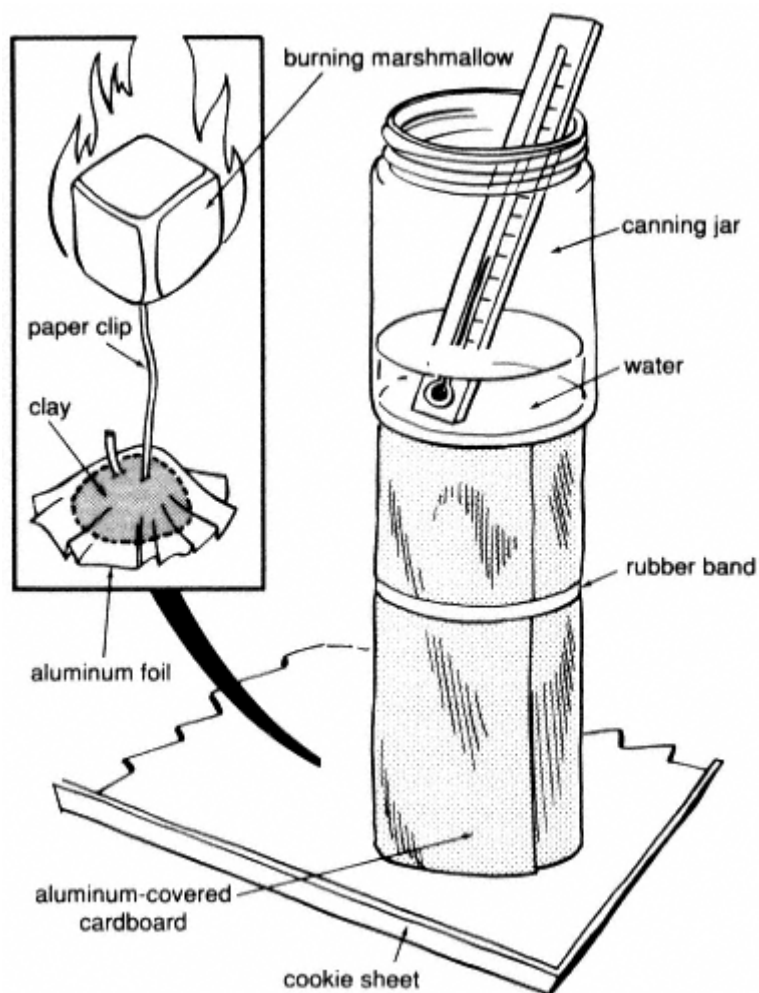

Figure 5.1
13. Set the jar of water on top of the tube above the burning marshmallow (see Figure 5.1).